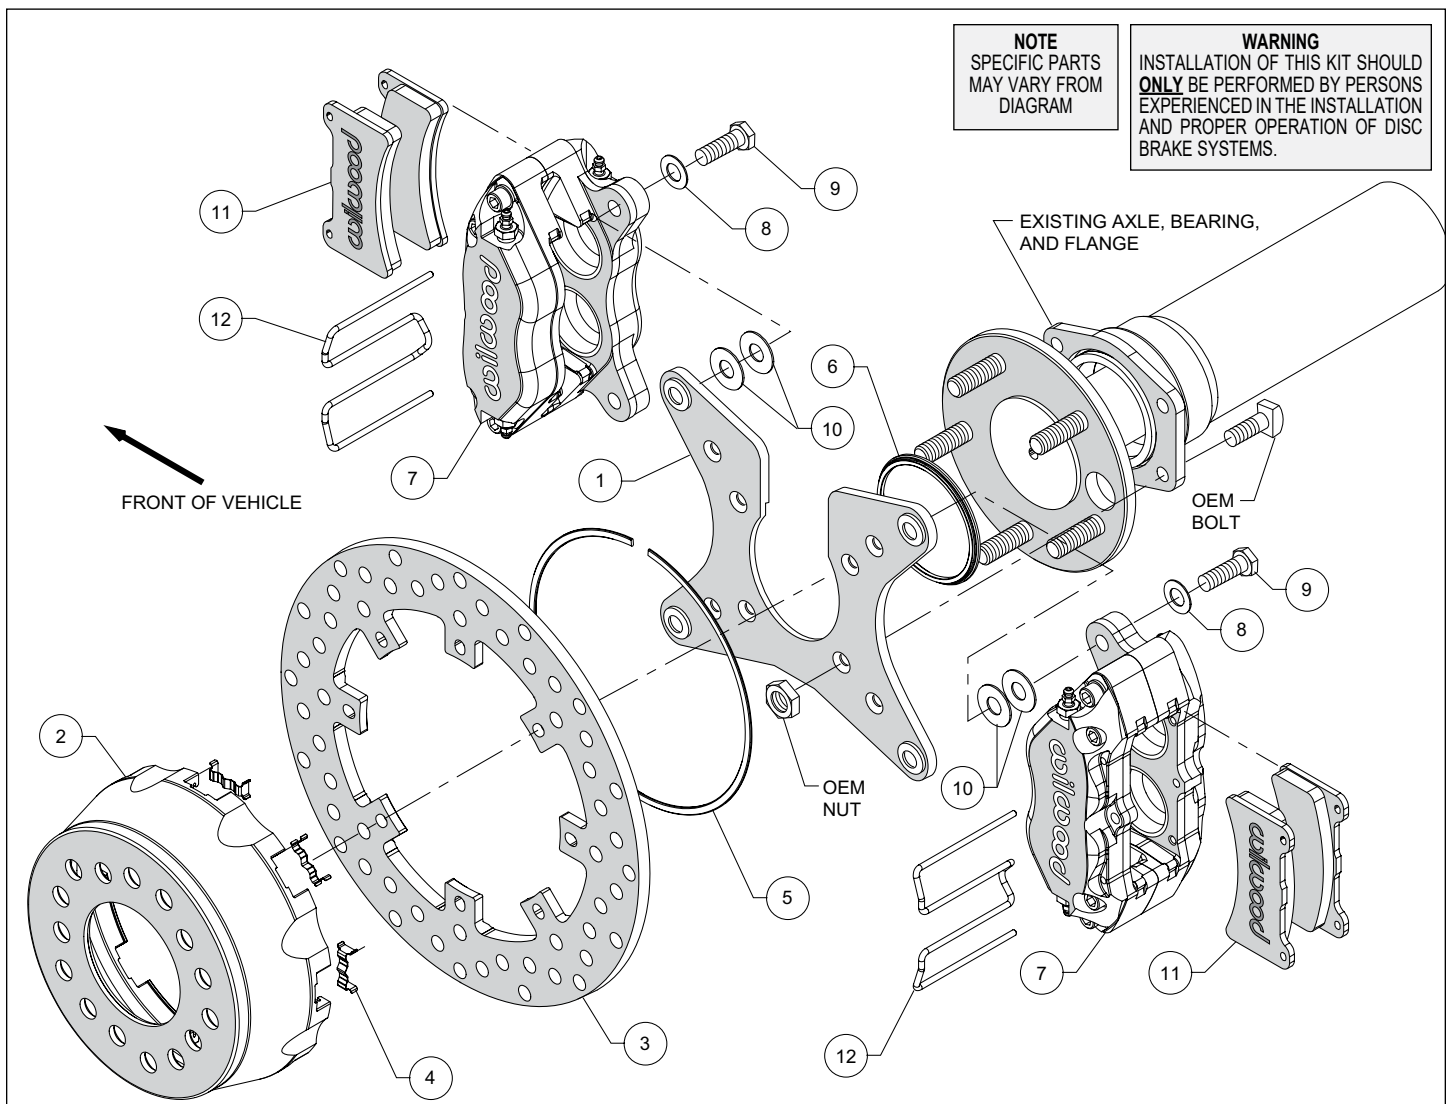
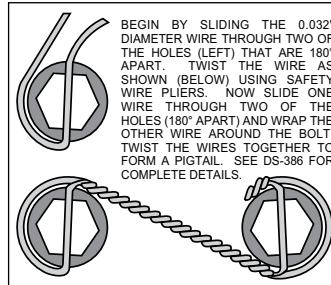
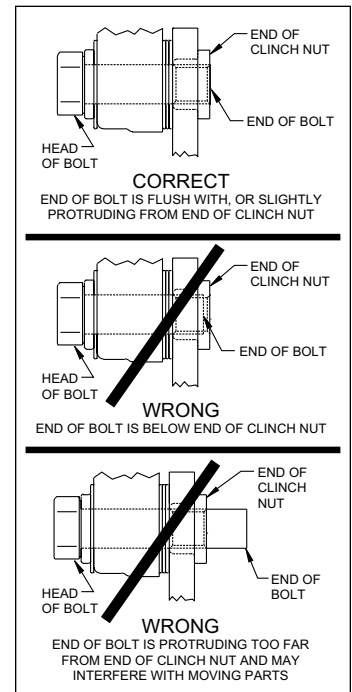

Figure 1. Typical Installation Configuration
Figure 4. Safety Wire Diagram
Figure 5. Clinch Nut Engagement Diagram
**Assembly Instructions** (numbers in parenthesis refer to the parts list and Figure 1 on the preceding pages): **CAUTION:** All mounting bolts must fully engage clinch nuts. Be sure to check that all bolts are either flush or protruding through flanged side of clinch nut after shiming, Figure 5.
- Install the caliper mounting bracket (1), with the slot for the axle pointing upward, to the housing flange using the OEM bolts and nuts, as shown in Figure 1 and Photo 1. Ensure that the caliper mounting ears on the bracket are oriented fore and aft on the car, with the heads of the clinch nuts facing outboard, Photo 1. Apply red *Loctite*® 271 to the OEM bolt threads and torque to OEM specifications.
- Insert the dynamic mount wear plates (4) into the slots in the hat (2) making sure the tabs snap in place, Photo 2. Orient the rotor (3) as shown in Figure 1 and Photo 3, with the flush mount tab side facing the hat. Attach the rotor to the hat using snap ring (5) by pushing down on the rotor and installing the ring into the groove in the hat, as shown in Photo 4. Ensure that the ring is fully engaged in the groove.
- Slide the rotor registration adapter (6) onto the axle register on the axle flange with the smaller O.D. facing toward the hat (2), Photo 5. Align the correct hole pattern in the hat with the axle stud pattern and slide the hat/rotor assembly onto the axle hub. **NOTE:** The hat must fit flush against the axle flange or excessive rotor run out may result. Install three lug nuts (finger tight) to keep the hat/rotor in place while continuing with the installation. **NOTE:** Some OEM and aftermarket axles come with stud sizes larger than 0.50" diameter. Verify stud size, and if necessary, have a qualified machine shop drill the hats to the correct size.
- NOTE:** Please reference the caution statement at the beginning of the assembly instructions. Mount one caliper (7) onto the mounting bracket (1) using bolts (9) and washers (8), as shown in Figure 1. Initially place two .035" thick shims (10) on each bolt between the caliper and the bracket, Photo 6. Temporarily tighten the mounting bolts and view the rotor (3) through the top opening of caliper. The rotor should be centered in the caliper, Photo 7. If not, adjust the caliper by adding or subtracting shims between the bracket and the caliper. Always use the same amount of shims on each of the two mounting bolts.
**NOTE:** The end of each bolt must be flush with or slightly protruding from the head of the clinch nut. If necessary, place spare shims between washer and caliper mounting ear to achieve the proper clinch nut engagement, as shown in Figure 5. Once the caliper alignment and clinch nut engagement are correct, remove the bolts one at a time, apply red *Loctite*® 271 to the threads, and torque to 40 ft-lb. For an added measure of security, the bolts may be safety wired using standard 0.032 inch diameter stainless steel safety wire as shown in Figure 4. Please refer to Wilwood's data sheet DS-386 (available at [www.wilwood.com/Pdf/DataSheets/ds386.pdf](http://www.wilwood.com/Pdf/DataSheets/ds386.pdf)) for complete safety wire installation instructions. Repeat this procedure for the second caliper.